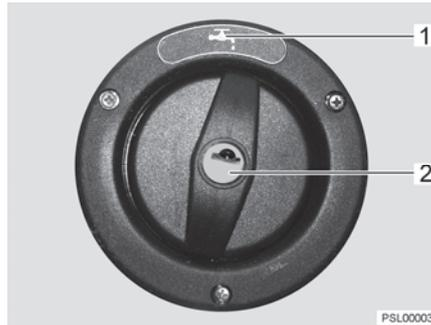

Fig. 136 Cap for the drinking water filler neck
The drinking water filler neck is indicated by the symbol "🚰" (Fig. 136,1). The cap is opened and closed using the key for the external flap locks.
- Insert key into locking cylinder (Fig. 136,2) and turn a quarter turn in an anticlockwise direction.
- Open drinking water filler neck (Fig. 136).